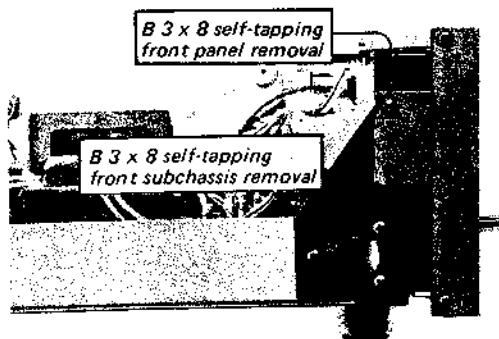

Fig. 2-2 Side view
2. Remove the three screws at both sides of the chassis as shown in Fig. 2-2.